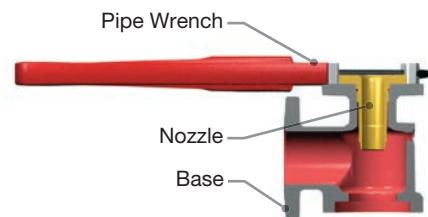
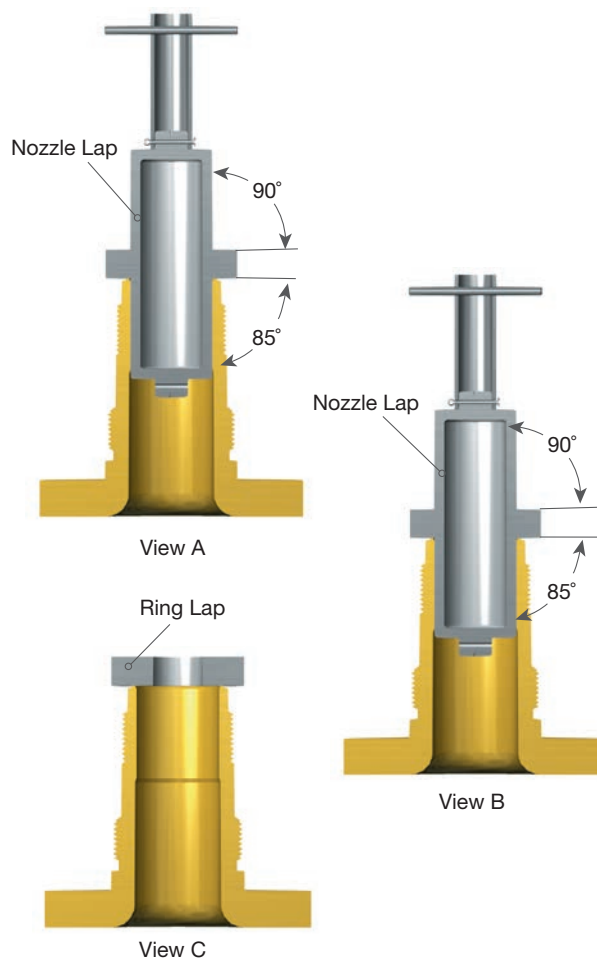

Figure 20: Removing the Nozzle from the Base
Figure 22: Lapping Nozzle Seats
- 19. Use a large pipe wrench on the nozzle flange to remove the nozzle (2) from the base (1) (see Figure 20).
Nozzle laps (See Figure 20) are available from Baker Hughes. Do not use these laps if the valve nozzle can be removed and machined to the proper seat dimensions (see Tables 1a and 1c).
Lap the 5° angle of the nozzle first (see Figure 20, View A). Then, invert the nozzle lap and use the flat side as a “starter” lap to ensure the seat is square (see Figure 20, View B). Use a ring lap in a circular motion to finish lapping see Figure 20, View C and Reconditioning of Laps (Figure 22 in Section XIII.G). Keep the lap squarely on the flat surface and avoid rocking it. Rocking will cause rounding of the seat.